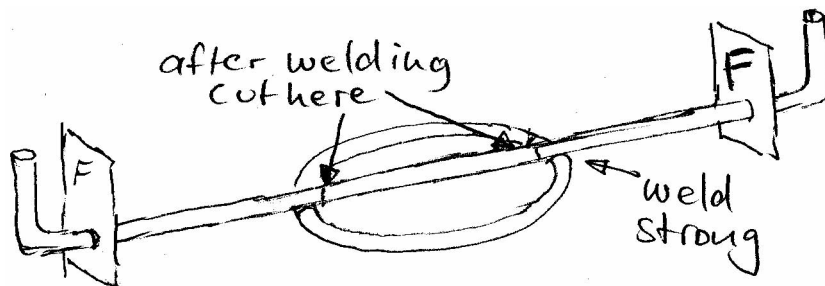

Figure 9: The pot holder part
4. Put the main bar on the floor so that the ends are pointing vertical up. Place the  $\varnothing$  12 mm pot-holder ring horizontal and central (using the 17 cm marks) on the bar and weld the contact points **very strong**. The sheet metals have to be outside of the ring, one on each side. (see figure 9)